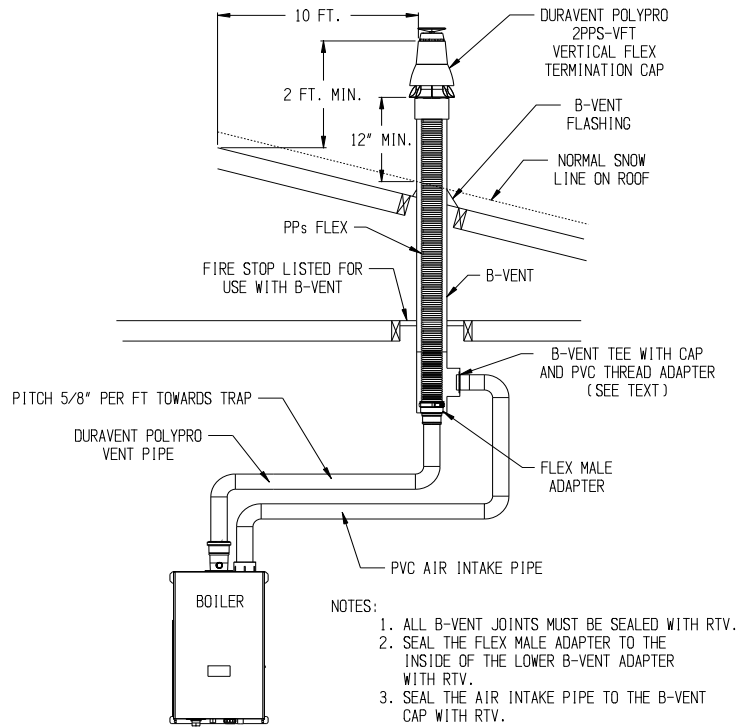

FIGURE 7.19: DURAVENT POLYPRO B-VENT AIR CHASE SYSTEM (VENT OPTIONS #18 & 19)
3. Requirements for B-Vent Air Chase Options – Observe the following additional requirements when using an abandoned B-vent chimney as an air chase as described in Options #18-21. Also refer to Figures 7.19 & 7.20.
Example: A 100MBH model is to be installed as using Vent Option 18 as shown in Figure 7.19. The following components are used: